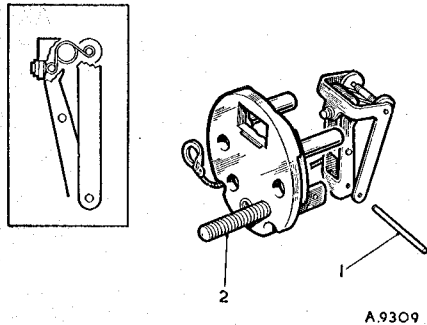

Fig. 3. Fitting the rocker assembly to the pedestal. (Inset) the correct position of the centre toggle spring
1. Invert the pedestal and fit the rocker assembly to it by pushing the steel pin (1) (Fig. 3) through the small holes in the rockers and pedestal struts. Then position the centre toggle so that, with the inner rocker spindle in tension against the rear of the contact point, the centre toggle spring is above the spindle on which the white rollers run. This positioning is important to obtain the correct 'throw over' action; it is also essential that the rockers are perfectly free to swing on the pivot pin and